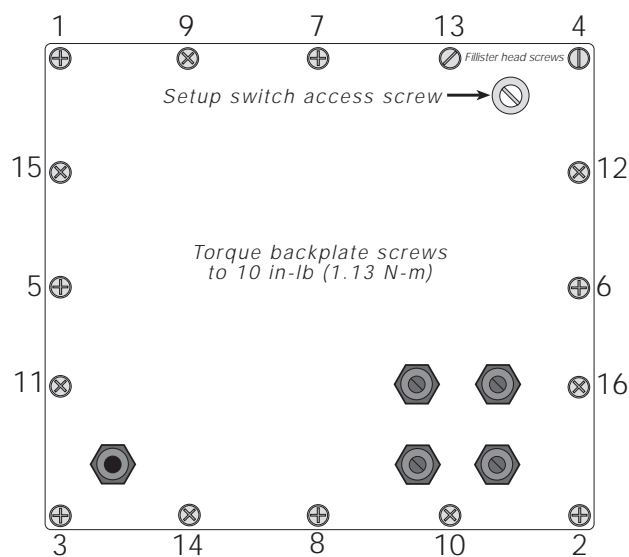

Figure 1. Torque Pattern for Backplate Screws
12. Position backplate over the enclosure and reinstall the backplate screws. Use the torque pattern shown in Figure 1 to prevent distorting the backplate gasket. Torque backplate screws to 10 in-lb (1.13 N-m).